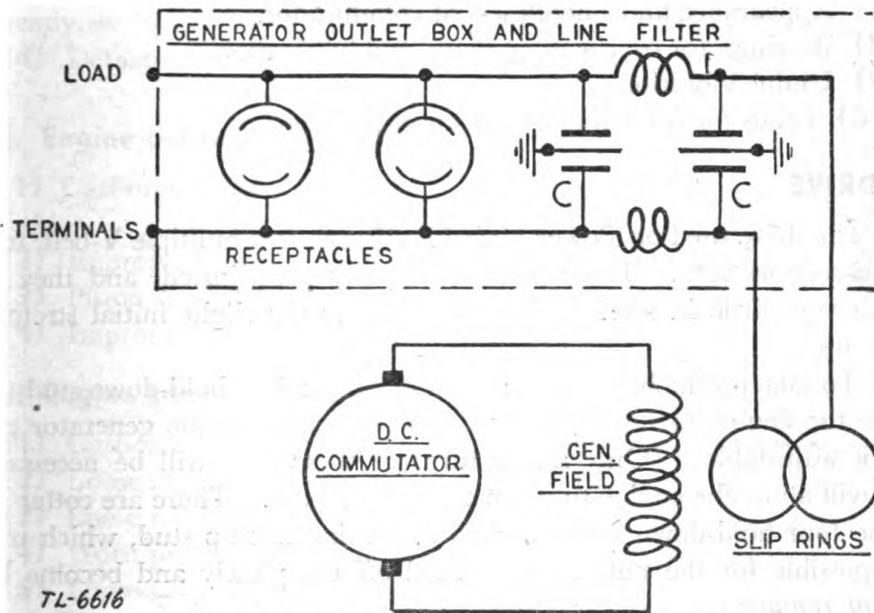

FIGURE 20. Power Unit PE-75-(*), schematic of generator connections.
e. Connections (fig. 20). Keep all connections tight. Any frayed, cut, or worn insulation must be repaired immediately to prevent a possible break-down. See that the lead connections in the conduit (junction) box are properly insulated to prevent grounding against the box or cover.